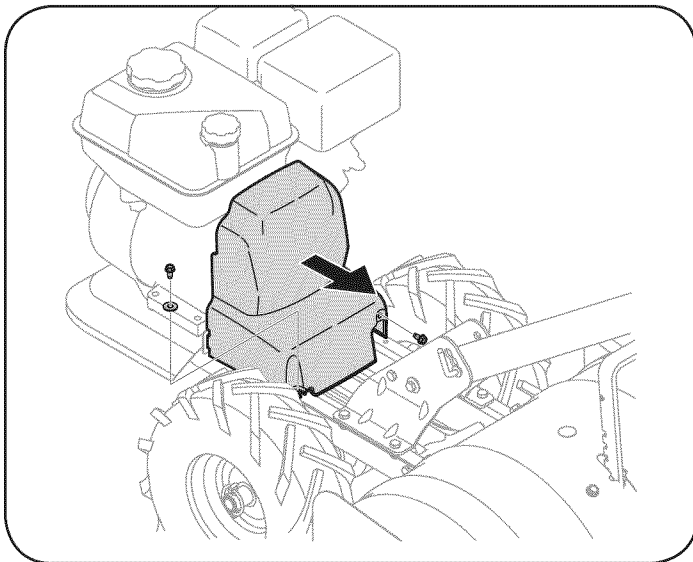

Figure 27
2. Remove the belt cover by first removing the two 1/4-20 self-tapping hex screws. See Figure 27. Lift the belt cover up and away from the tiller and set in a safe location until reinstallation.